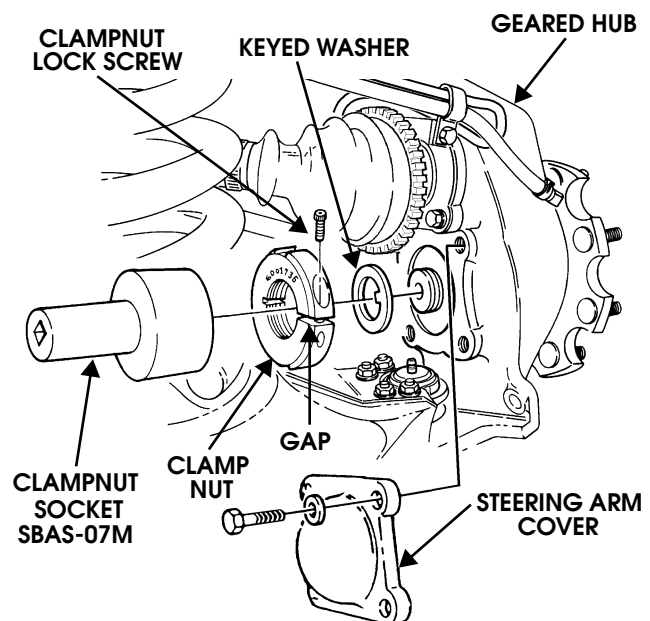

Figure 9-39: Clampnut Installation
- Using clampnut socket J-42545, tighten clampnut to 40 lb-ft (54 N•m) (Figure 9-39). Rotate spindle five revolutions both clockwise and counterclockwise to seat bearings.